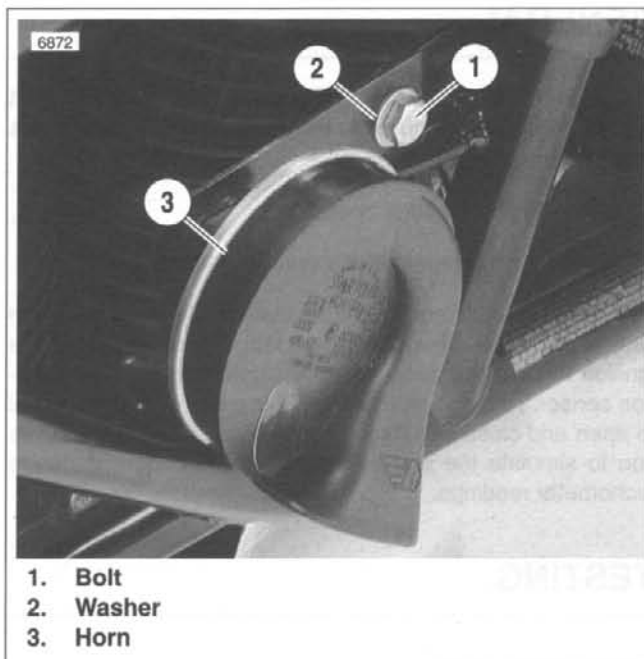
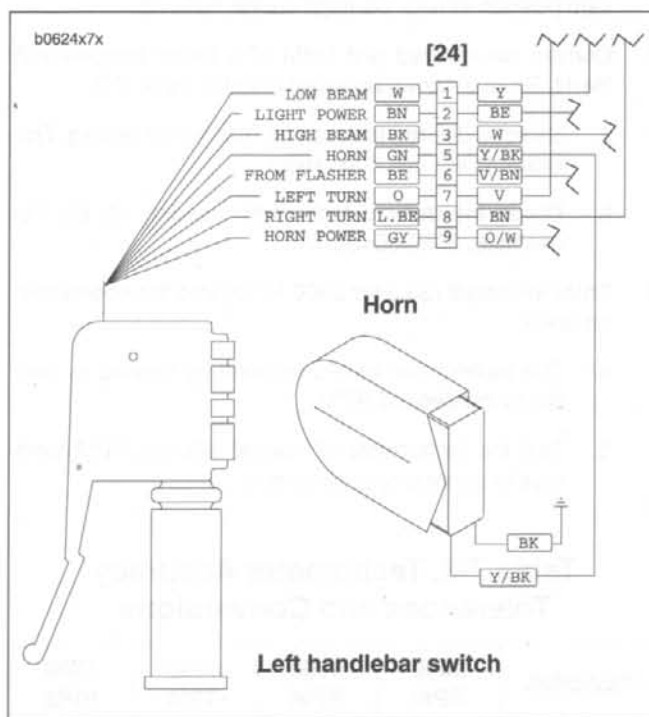

Figure 7-73. Horn Assembly
Figure 7-74. Horn Wiring
4. See Figure 7-73. Remove bolt (1) and washer (2).
5. Remove horn (3) from frame.
6. See Figure 7-74. Detach Y/BK power wire and BK ground wire from terminal clips on back side of horn.
1. See Figure 7-74. Connect Y/BK power wire and BK ground wire to terminal clips on back side of horn.
2. See Figure 7-73. Attach horn (3) to frame using bolt (1) and washer (2).
- a. See Figure 7-74. Remove Y/BK power and BK ground wires from terminal clips.